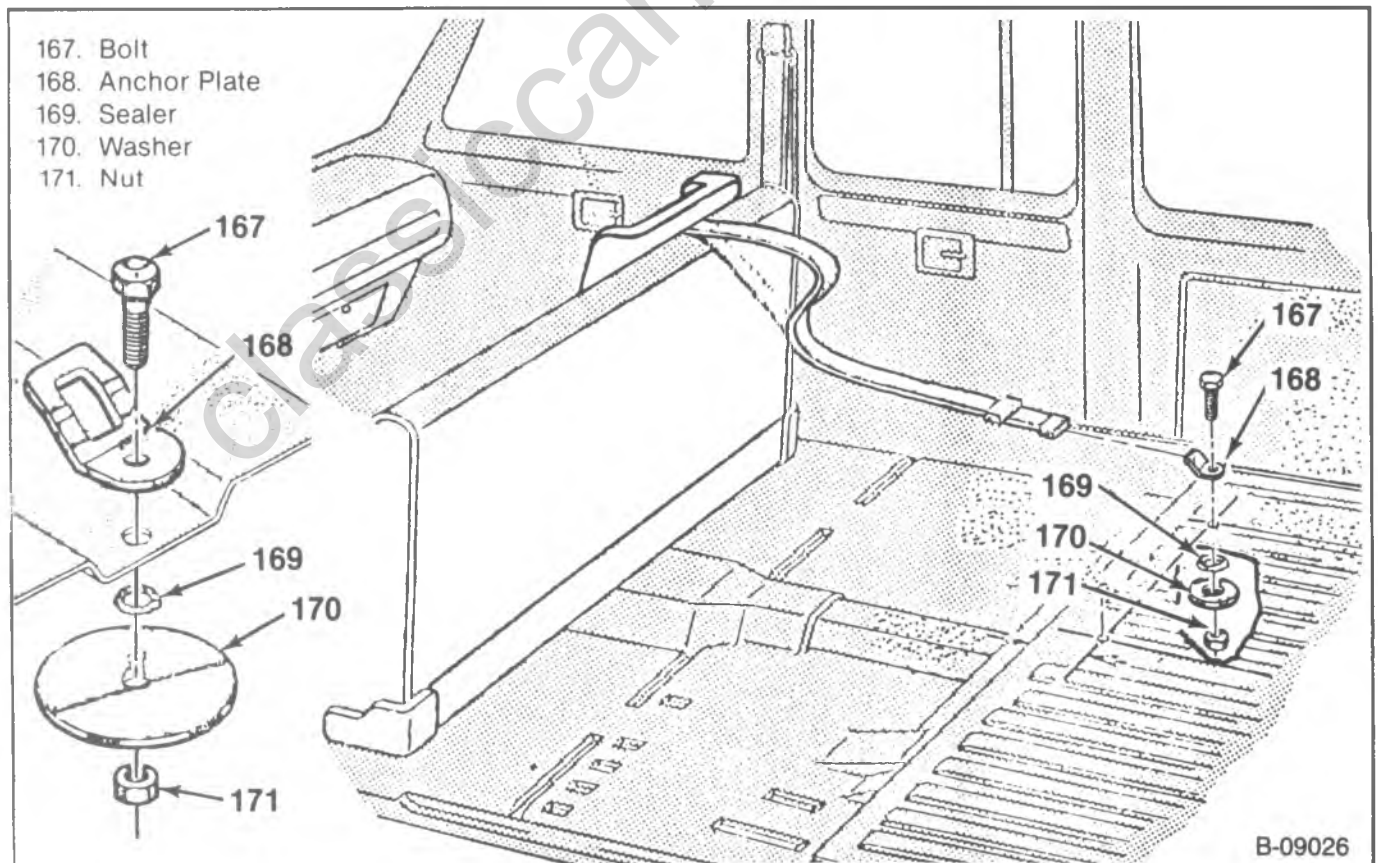

Figure 29—Suburban Front Seat Top Strap Belt Components
1. Determine the location for the anchor by measuring 51 mm (2-inches) rearward from the rear edge of the kick up molding. Make this measurement in the center of one of the depressed floor pan ribs (figure 29).